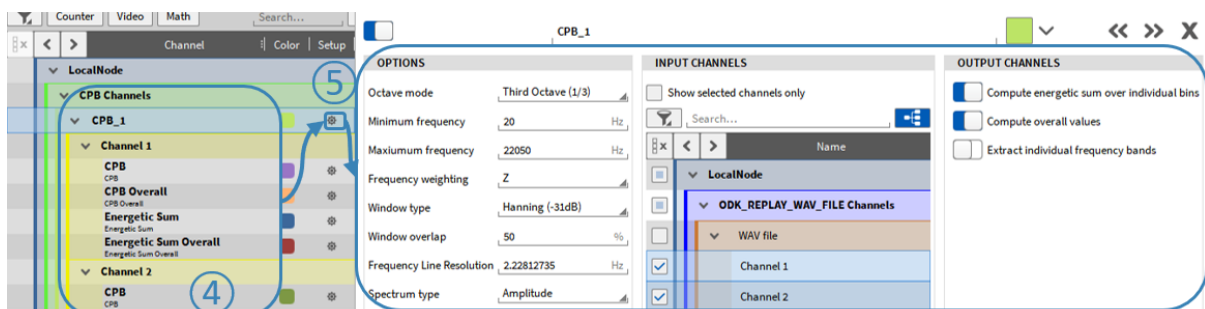

Fig. 7.124: CPB Analysis with extracted 100 Hz and 250 Hz bin
3. Press *Add* afterwards to create the calculation. The channels will be added to the Channel List (see ④ in Fig. 7.124)
4. The settings can be accessed afterwards by clicking on the Gear button of the channel (see ⑤ in Fig. 7.124)
The actual CPB spectrum (changing in time) is calculated per default. The channel name is *CPB* (see ④ in Fig. 7.124).
If *Compute energetic sum over individual bins* is enabled, the energetic sum for the spectrum is calculated. The channel name is *Energetic Sum* (see ④ in Fig. 7.124).
The calculation will be reset at recording start. The channel name will be *CPB Overall* and *Energetic Sum Overall* (see ④ in Fig. 7.124).